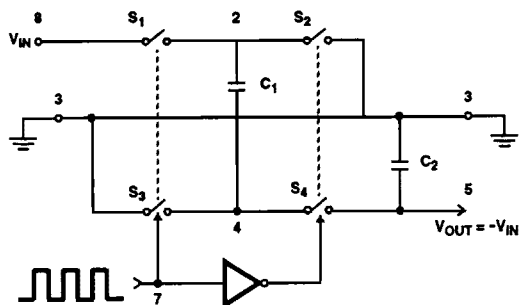
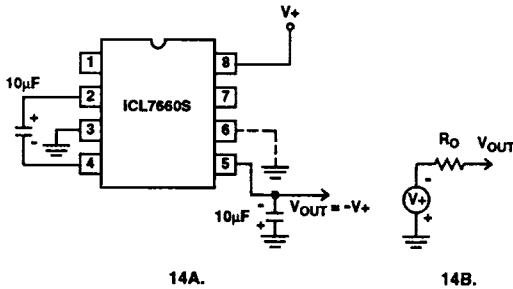
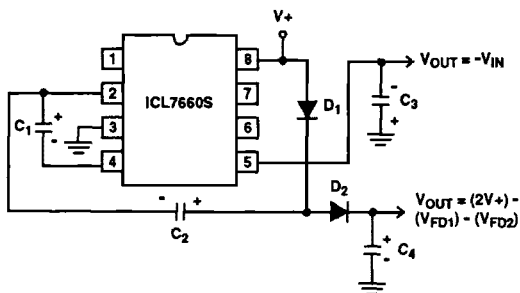

FIGURE 13. IDEALIZED NEGATIVE VOLTAGE CONVERTER
FIGURE 14. SIMPLE NEGATIVE CONVERTER AND ITS OUTPUT EQUIVALENT
FIGURE 21. COMBINED NEGATIVE VOLTAGE CONVERTER AND POSITIVE DOUBLER
The ICL7660S contains all the necessary circuitry to complete a negative voltage converter, with the exception of 2 external capacitors which may be inexpensive 10 μ F polarized electrolytic types. The mode of operation of the device may be best understood by considering Figure 13, which shows an idealized negative voltage converter. Capacitor C₁ is charged to a voltage, V₊, for the half cycle when switches S₁ and S₃ are closed. (Note: Switches S₂ and S₄ are open during this half cycle.) During the second half cycle of operation, switches S₂ and S₄ are closed, with S₁ and S₃ open, thereby shifting capacitor C₁ to C₂ such that the voltage on C₂ is exactly V₊, assuming ideal switches and no load on C₂. The ICL7660S approaches this ideal situation more closely than existing non-mechanical circuits.
In the ICL7660S, the 4 switches of Figure 13 are MOS power switches; S₁ is a P-Channel devices and S₂, S₃ and S₄ are N-Channel devices. The main difficulty with this approach is that in integrating the switches, the substrates of S₃ and S₄ must always remain reverse biased with respect to their sources, but not so much as to degrade their "ON" resistances. In addition, at circuit start up, and under output short circuit conditions (V_{OUT} = V₊), the output voltage must be sensed and the substrate bias adjusted accordingly. Failure to accomplish this would result in high power losses and probable device latchup.
where V₁ and V₂ are the voltages on C₁ during the pump and transfer cycles. If the impedances of C₁ and C₂ are relatively high at the pump frequency (refer to Figure 13) compared to the value of R_L, there will be substantial difference in the voltages V₁ and V₂. Therefore it is not only desirable to make C₂ as large as possible to eliminate output voltage ripple, but also to employ a correspondingly large value for C₁ in order to achieve maximum efficiency of operation.
The majority of applications will undoubtedly utilize the ICL7660S for generation of negative supply voltages. Figure 14 shows typical connections to provide a negative supply where a positive supply of +1.5V to +12V is available. Keep in mind that pin 6 (LV) is tied to the supply negative (GND) for supply voltage below 3.5V.
The output characteristics of the circuit in Figure 14 can be approximated by an ideal voltage source in series with a resistance as shown in Figure 14B. The voltage source has a value of $-(V_+)$. The output impedance (R_O) is a function of the ON resistance of the internal MOS switches (shown in Figure 13), the switching frequency, the value of C_1 and C_2 , and the ESR (equivalent series resistance) of C_1 and C_2 . A good first order approximation for R_O is:
Figure 21 combines the functions shown in Figure 14 and Figure 20 to provide negative voltage conversion and positive voltage doubling simultaneously. This approach would be, for example, suitable for generating $+9\text{V}$ and -5V from an existing $+5\text{V}$ supply. In this instance capacitors C_1 and C_3 perform the pump and reservoir functions respectively for the generation of the negative voltage, while capacitors C_2 and C_4 are pump and reservoir respectively for the doubled positive voltage. There is a penalty in this configuration which combines both functions, however, in that the source impedances of the generated supplies will be somewhat higher due to the finite impedance of the common charge pump driver at pin 2 of the device.